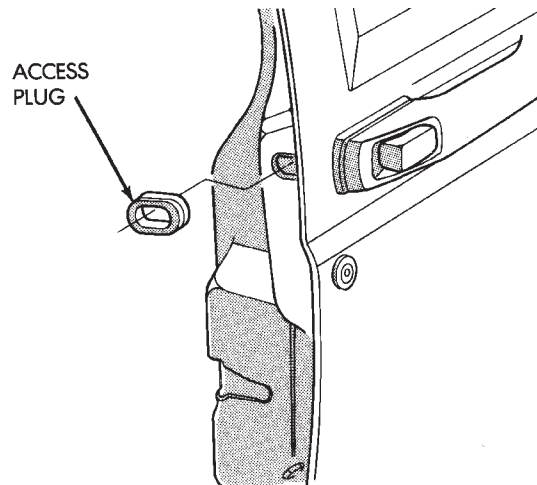

Fig. 74 Access Plug
- (1) Remove the access plug located at the upper end of the door (Fig. 74).